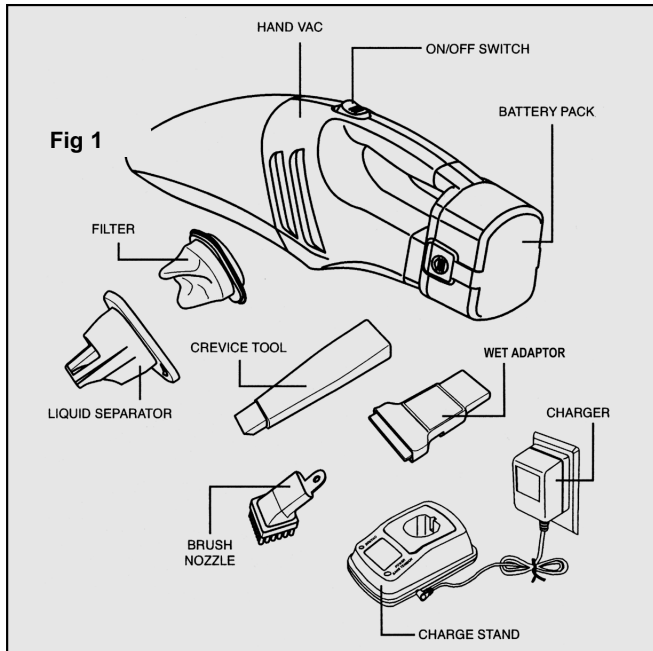

Fig 1
- 3.3.1 When fitted simply press and hold On/Off switch (fig 1).
- 3.4.3 When fitted simply press and hold On/Off switch (fig 1) and proceed to vacuum.